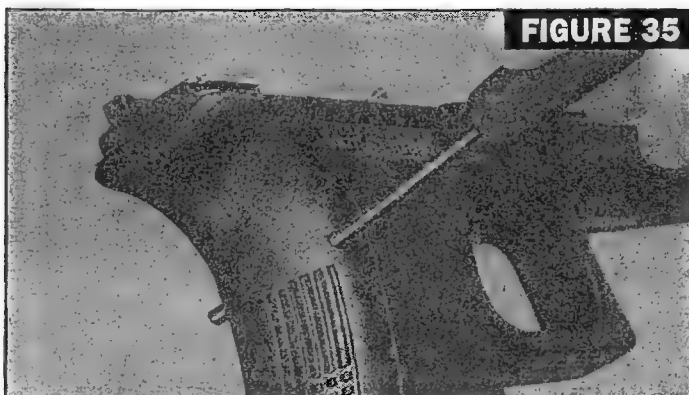

FIGURE 35
- Use a pin punch to push the trigger mechanism housing pin out of the receiver (Fig. 35).